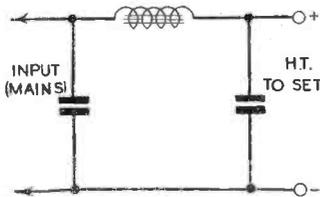
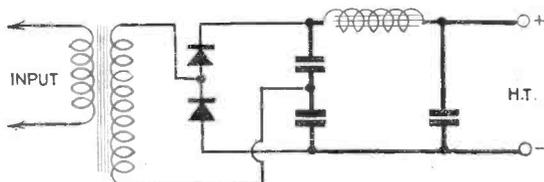
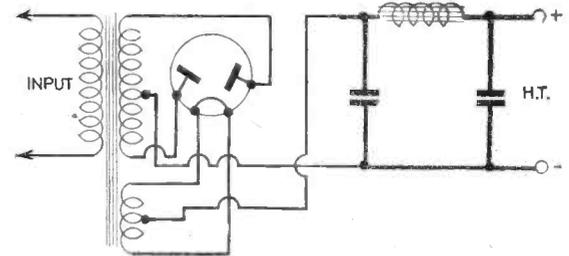

Fig. 1.—D.C. mains unit circuit arrangement.
Fig. 2.—A.C. mains unit, showing the additions required to Fig. 1.
Fig. 3.—Similar unit to Fig. 2, but with valve rectification.
**M**ANY listeners are now fitting battery eliminators in an endeavour to economise and also in view of the difficulty of obtaining replacement batteries. In other cases listeners have unfortunately had to change their place of residence and it may prove that in doing so their type of mains supply may also change—from A.C. to D.C. or vice versa. There are thus difficulties to be met in such cases. For the benefit of those who are not familiar with battery units it may be stated that a D.C. mains unit consists mainly of a smoothing circuit, whereas an A.C. mains unit consists of the same circuits and components plus a mains transformer and rectifying source. This latter may be a valve or metal rectifier, but the circuit following the rectifier is identical with the D.C. unit. The latter is shown in Fig. 1, and Fig. 2 shows a metal rectifier D.C. unit and Fig. 3 a valve rectifier mains unit. To enable the simi-
The voltage-dropping schemes may, of course, be applied to either the D.C. or the A.C. units, and the points marked positive and negative apply to Fig. 1 or Fig. 2. Where a D.C. unit is being employed and hum is experienced, it is generally attributable to the fact that the